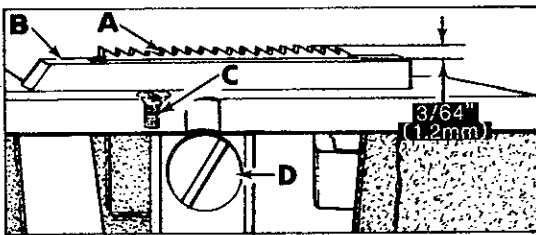

Fig. 9
Feed dog (A, Fig. 9) should be centered in throat plate (B) with equal clearance on all sides and ends with feed travel set to desired stitch length. At highest point of travel, tips of feed dog teeth should extend the depth of a tooth or approximately $3/64$ inch (1.2mm) above throat plate and parallel to same. Screw (C) should be set to support feed dog after screw (D) has been loosened which secures feed dog in position.